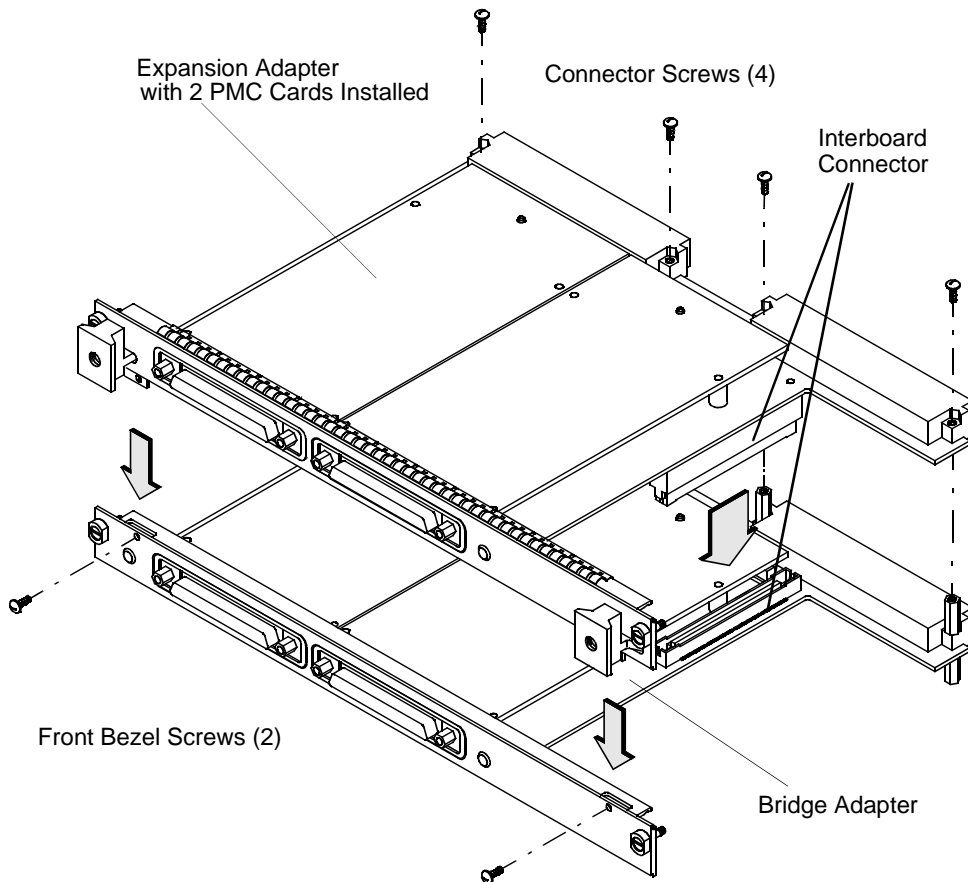

Figure 4-6 Installing the Expansion Adapter onto the Bridge Adapter
- 9 Making sure that the connector and bezels are properly aligned, install the PMC expansion adapter onto the bridge adapter, as shown in Figure 4-6. Ensure that the interboard connector seats properly by applying pressure to the top of the expansion board and to the bottom of the bridge board. There are two screws that secure the front bezel and four screws to secure the backplane connectors.